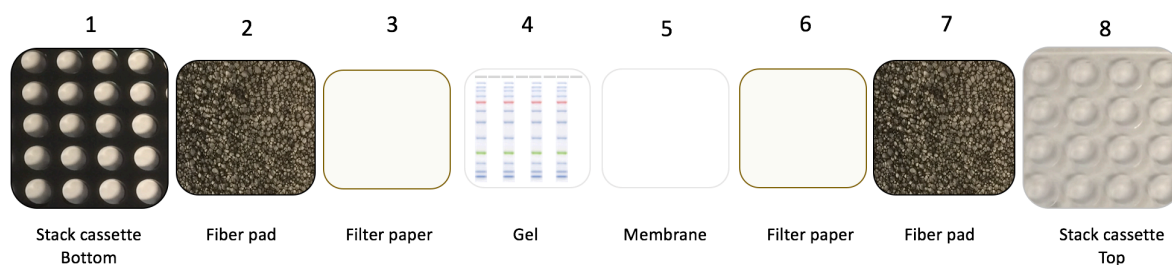
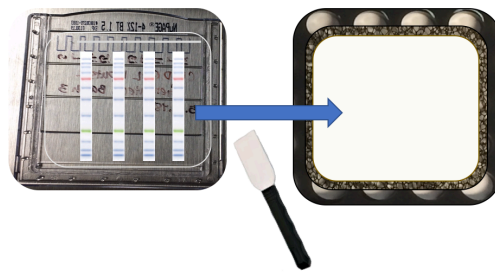

Figure 2. Transfer stack layer composition
Figure 3. Gel transfer schematic
1. Place stack cassette into Pyrex drying dish with the **black side facing down** (Refer to **Figure 2**).
2. Pour chilled 1× NuPAGE Transfer Buffer into Pyrex drying dish so that the black side of stack cassette (1) is submerged.
5. Carefully move gel from cassette to top of wetted filter paper using gel knife (see Figure 3). Ensure gel knife is wetted with transfer buffer so not to tear the gel.